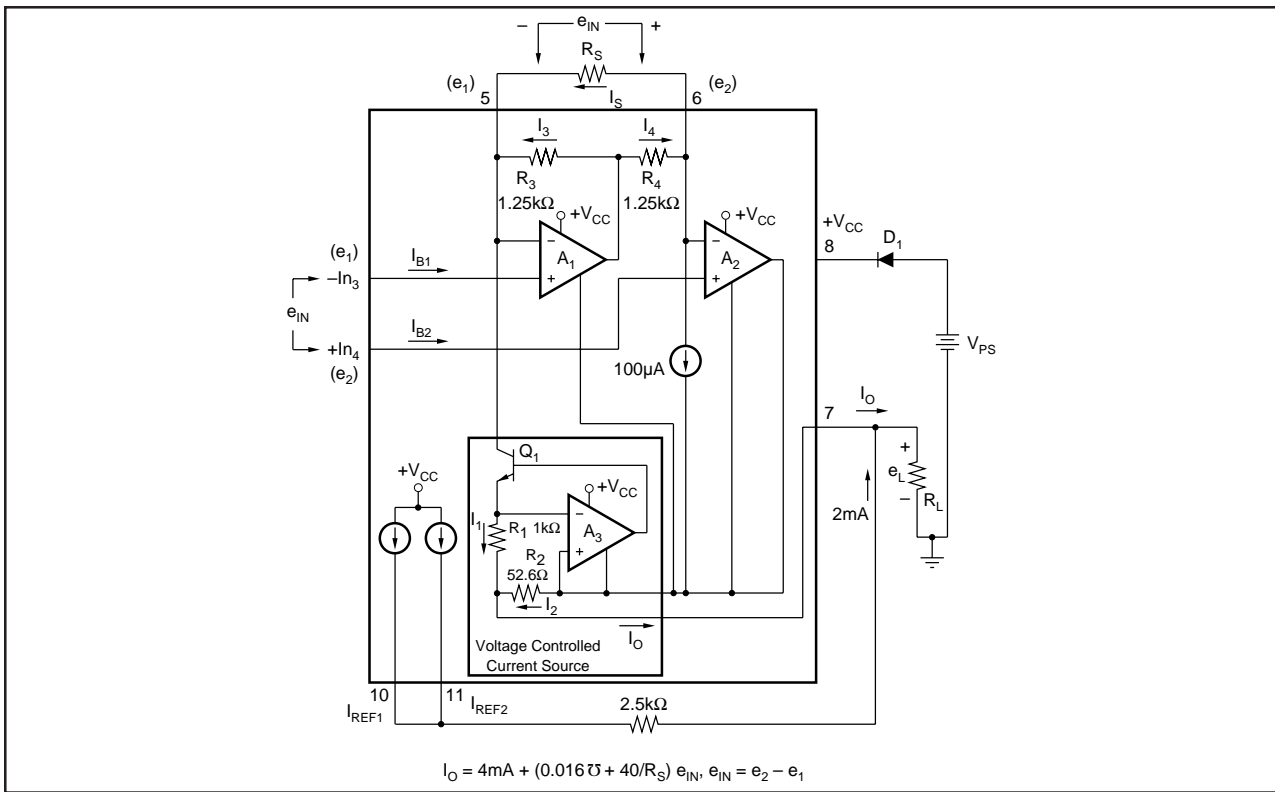

FIGURE 1. Simplified Schematic of the XTR101.
A simplified schematic of the XTR101 is shown in Figure 1. Basically the amplifiers,  $A_1$  and  $A_2$ , act as a single power supply instrumentation amplifier controlling a current source,  $A_3$  and  $Q_1$ . Operation is determined by an internal feedback loop.  $e_1$  applied to pin 3 will also appear at pin 5 and similarly  $e_2$  will appear at pin 6. Therefore the current in  $R_S$ , the span setting resistor, will be  $I_S = (e_2 - e_1)/R_S = e_{IN}/R_S$ . This current combines with the current,  $I_3$ , to form  $I_1$ . The circuit is configured such that  $I_2$  is 19 times  $I_1$ . From this point the derivation of the transfer function is straightforward but lengthy. The result is shown in Figure 1.
The basic connection of the XTR101 is shown in Figure 1. A difference voltage applied between input pins 3 and 4 will cause a current of 4-20mA to circulate in the two-wire output loop (through  $R_L$ ,  $V_{PS}$ , and  $D_1$ ). For applications requiring moderate accuracy, the XTR101 operates very cost-effectively with just its internal drive transistor. For more demanding applications (high accuracy in high gain) an external NPN transistor can be added in parallel with the internal one. This keeps the heat out of the XTR101 package
- It is recommended that a reverse polarity protection diode ( $D_1$  in Figure 1) be used. This will prevent damage to the XTR101 caused by a momentary (e.g., transient) or long term application of the wrong polarity of voltage between pins 7 and 8.